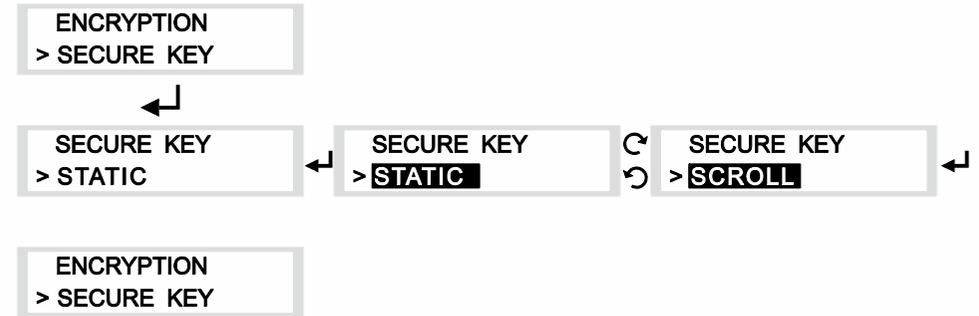

Fig. 26
(L) SECURE KEY: Adding encryption key option, Fig. 26